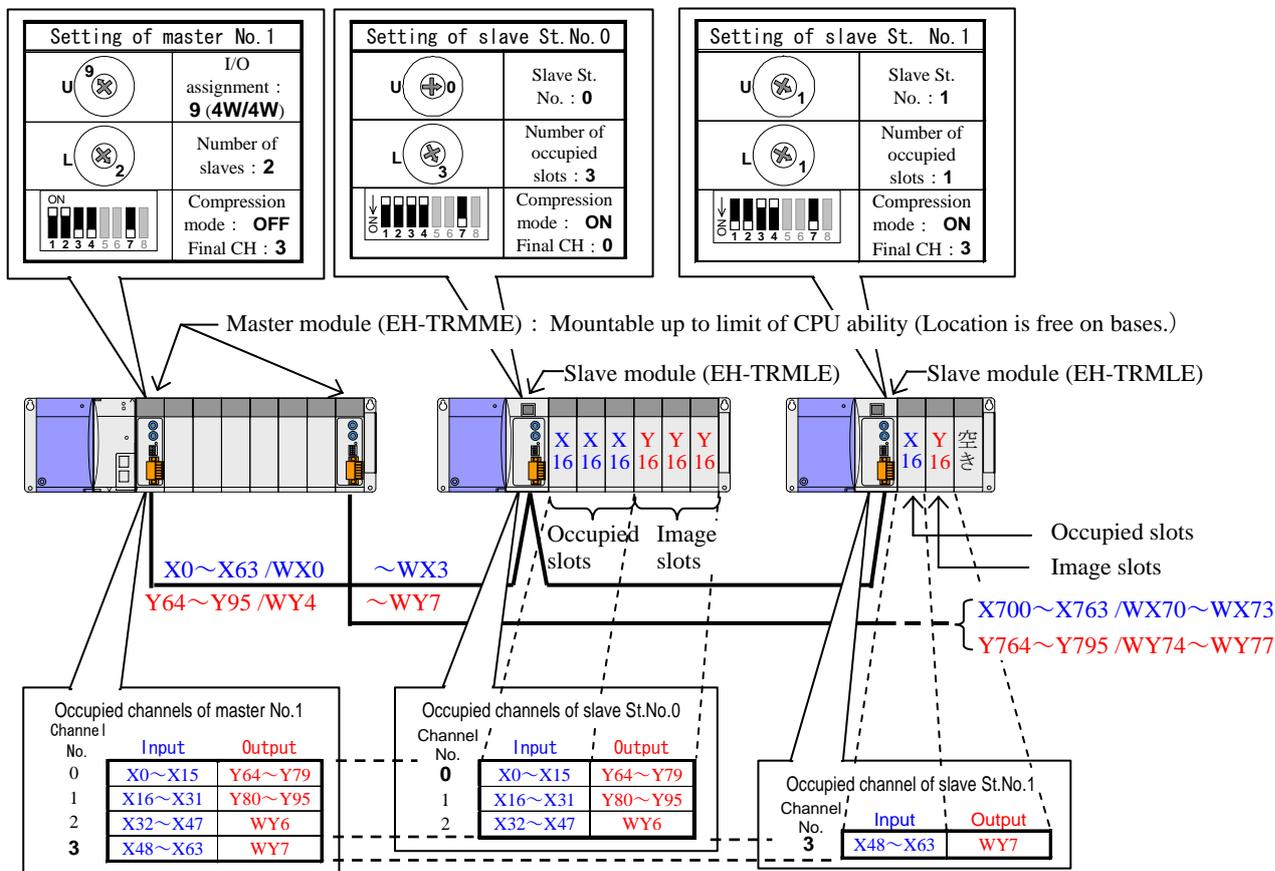
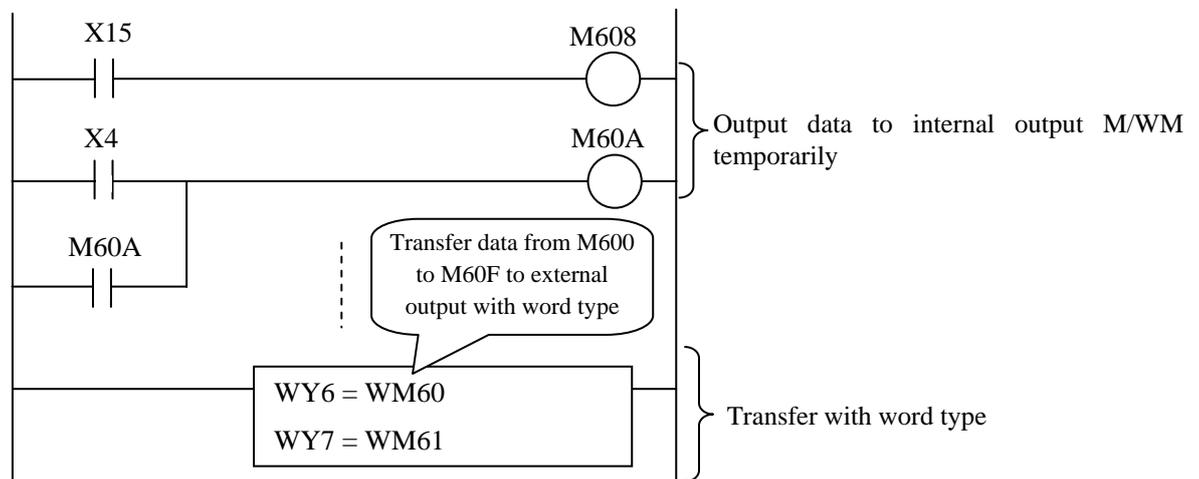

Figure 4.12 System configuration example-1 (I/O assignment of master: “Word 4W/4W”)
Figure 4.14 Sample program with bit I/O numbers that exceed 95
Typical system configuration example that I/O assignment of master module (EH-TRMME) is “Word 4W/4W” (“X4Y4W” in Control editor) is shown in Figure 4.12.
- 2) One channel consists from 16 bit (1 word) input area and 16 bit (1 word) output area. In the case of I/O assignment for master module is “Word 4W/4W”, I/O number of slot that master module mounted is assigned to each channel as shown as Figure 4.12.
- 5) Maximum 4 slave modules can be connected to one master module. (Example of Figure4.12 is two slaves.)
- 10) Bit number in module is from 0 to 95. Therefore, please use the word number such as WY6 and WY7 in Figure 4.12 for the number that exceeds 95. In the case of using these No. as coil or contact in ladder program, Please use internal output like as M/WM temporarily and transfer these data to external output later as shown in Figure 4.14.